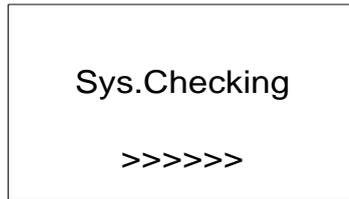

Figure 5-6 System self check ongoing
(1) System check mode is shown in Figure 5-6: